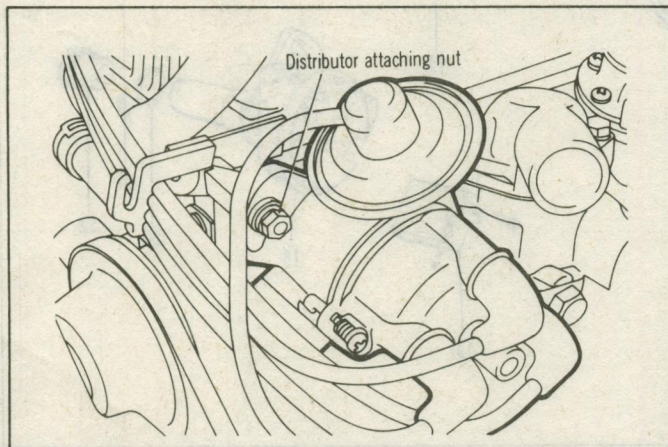

Fig. 36 Adjusting Ignition Timing
(3) Check the basic ignition timing and adjust if necessary. To adjust the ignition timing, loosen the distributor mounting nut and turn the distributor housing. (Fig. 36)